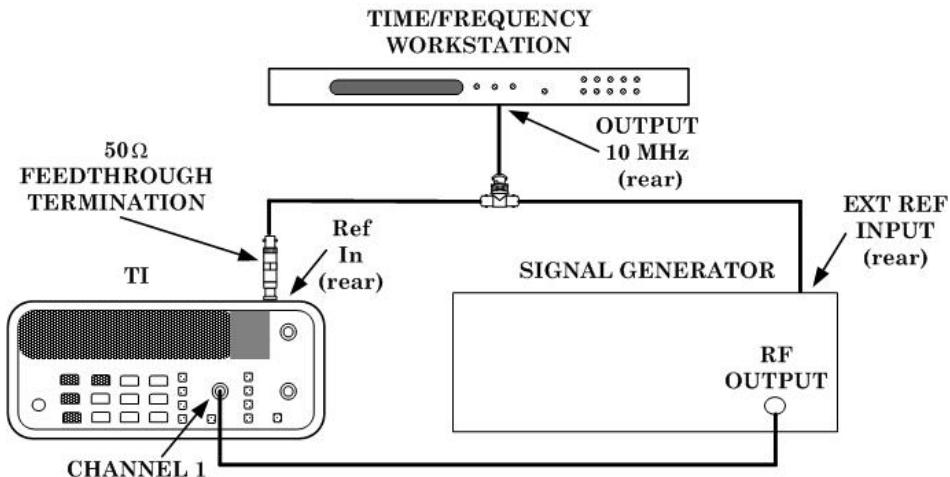

Figure 1. Equipment setup.
- (1) Press and release TI **POWER ON/STBY** pushbutton to **STBY**.
- (2) Press TI **POWER ON/STBY** pushbutton to **ON**.
- (3) Connect equipment as shown in figure 1.